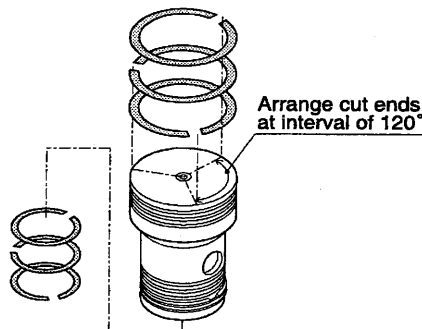

Fig. 37
- (3) If the direction of the ring is wrong, mount it correctly.
- (4) Replace the worn piston ring.
- (5) When setting piston rings into piston ring grooves, put the R-mark side of each ring upside and arrange the cut ends at interval of 120° so that all the cut ends will not be aligned. (Fig. 37)